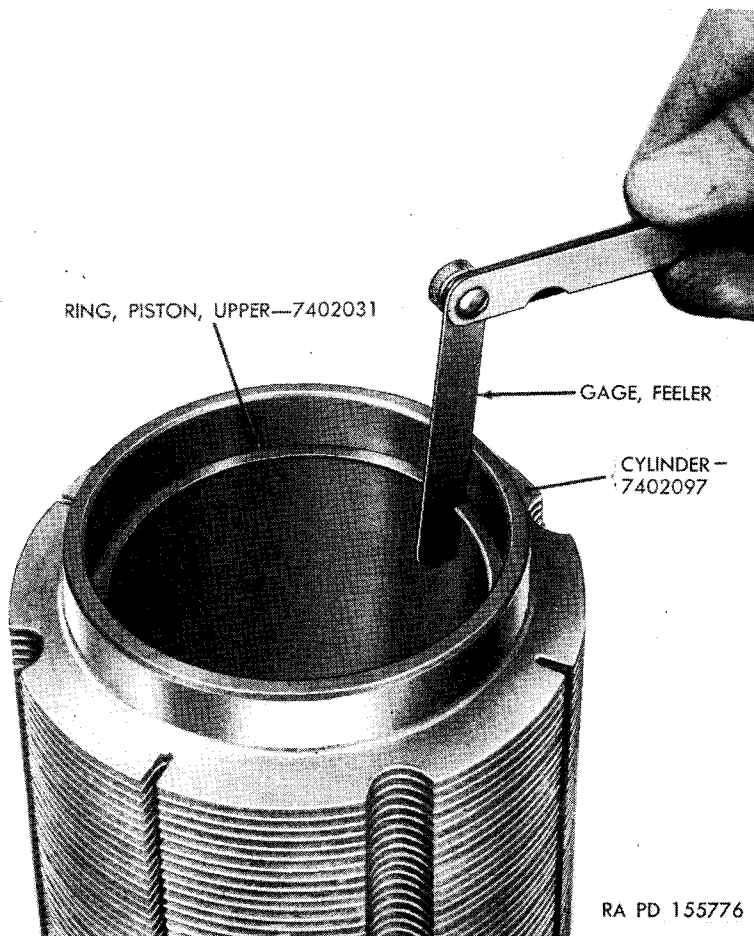

Figure 66. Checking ring gap.
c. Insert either new upper or lower ring in the cylinder to approximate position shown in figure 66, using piston head against ring to assure ring is horizontal to vertical center line of cylinder. Measure piston ring gap (par. 140).